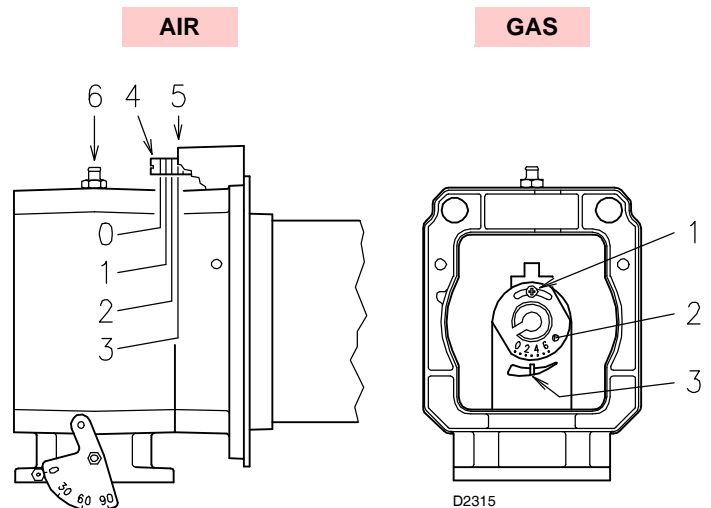
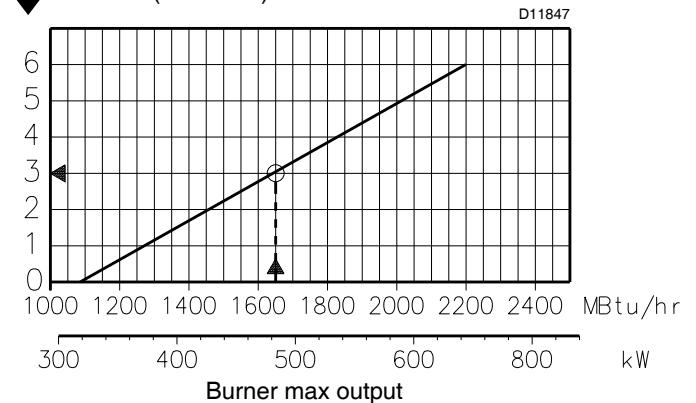

Fig. 13
Fig. 14
Installation operations are now at the stage where the blast tube and sleeve are secured to the boiler as shown in Fig. 13.
When the MIN output is within the value range given in Tab. H, the gas ring 2) (Fig. 13) is adjusted to zero.
In diagram (Fig. 14), depending on the MAX output, find the notch to use for adjusting the air and the gas.
Air adjustment (Fig. 13)
Gas adjustment (Fig. 13)
The MIN output of 450 MBtu/hr is not found in the values of Tab. H and therefore diagram (Fig. 14) is valid, from which it results that for a MAX output of 1650 MBtu/hr the gas and air adjustments are done on notch 3, as in Fig. 13.
Diagram (Fig. 14) shows the ideal settings for the ring 2)(Fig. 13).
If the gas supply pressure is too low to reach the max output operation pressure indicated in Tab. I, and if the ring 2)(Fig. 13) is not fully open, it can be opened wider by 1 or 2 notches.
Continuing with the previous example, Tab. I indicates that for burner with output of 1650 MBtu/hr a pressure of approximately 1.9" WC is necessary at test point 6)(Fig. 13).
If this pressure cannot be reached, open the ring 2)(Fig. 13) to notch 4 or 5.
- The same as the previous case: follow diagram (Fig. 14).
- The gas ring 2)(Fig. 13) is always adjusted to position 0, irrespective of the MAX burner.
- column A (Tab. I): gas ring 2)(Fig. 13) adjusted as indicated in diagram (Fig. 14).
- column B (Tab. I): gas ring 2)(Fig. 13) adjusted to zero.
- Gas ring 2)(Fig. 13) adjusted as indicated in diagram (Fig. 14)